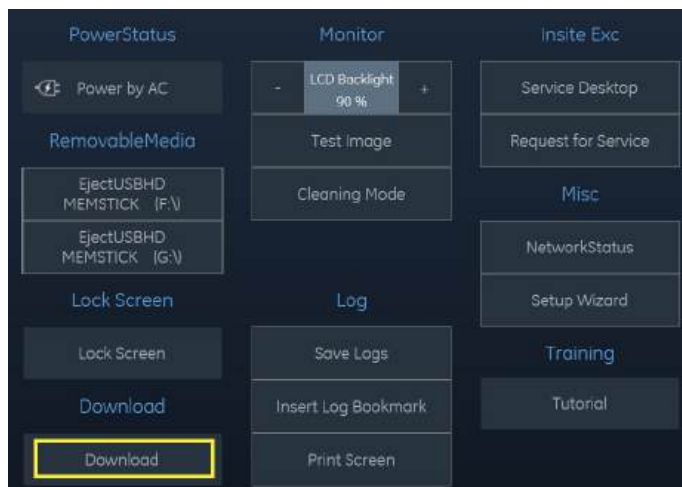
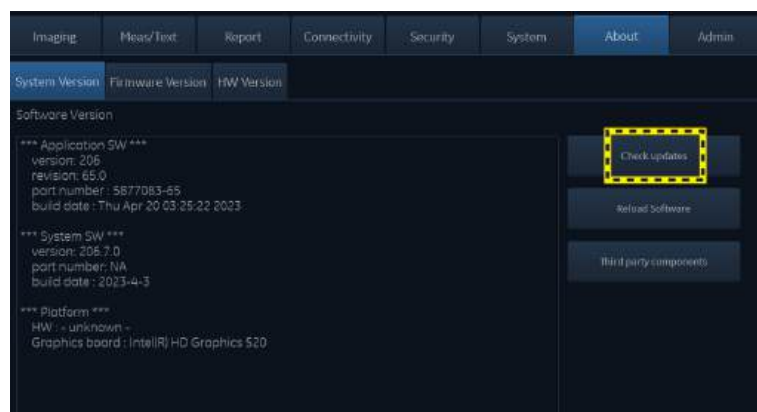

Figure 8-36. Press Download Button
Figure 8-37. Press 'Check Updates' Button
3. Press the **Download** button from the tray menu (Figure 8-36) or go to **Configure > About** page to press **Check updates** button (Figure 8-37).